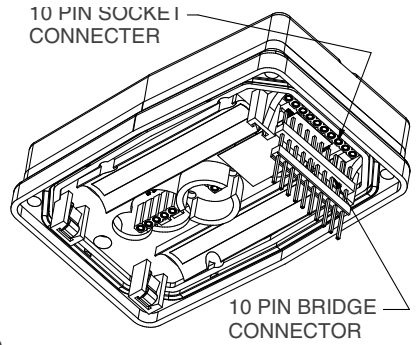

Figure 2
- Then, align the 10 pin connector on the display with the short pins on the 10 pin bridge connector and engage pins using gentle force until the display is seated on the cover plate (see Figure 2).